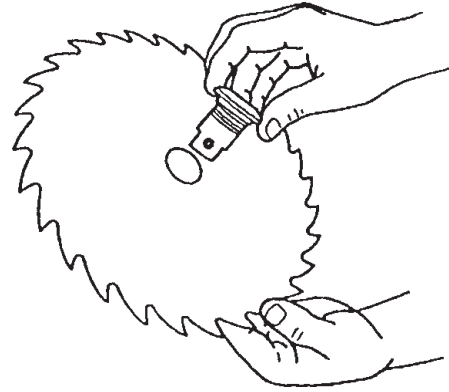
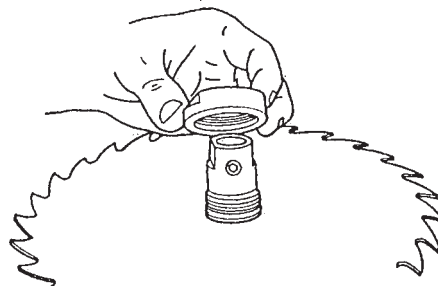

Figure C-23
Figure C-24
- b. Hold the blade with the teeth pointing toward you, as shown in Figure C-23, then insert the arbor through the hole. Replace the nut and finger tighten it, as shown in Figure C-24.